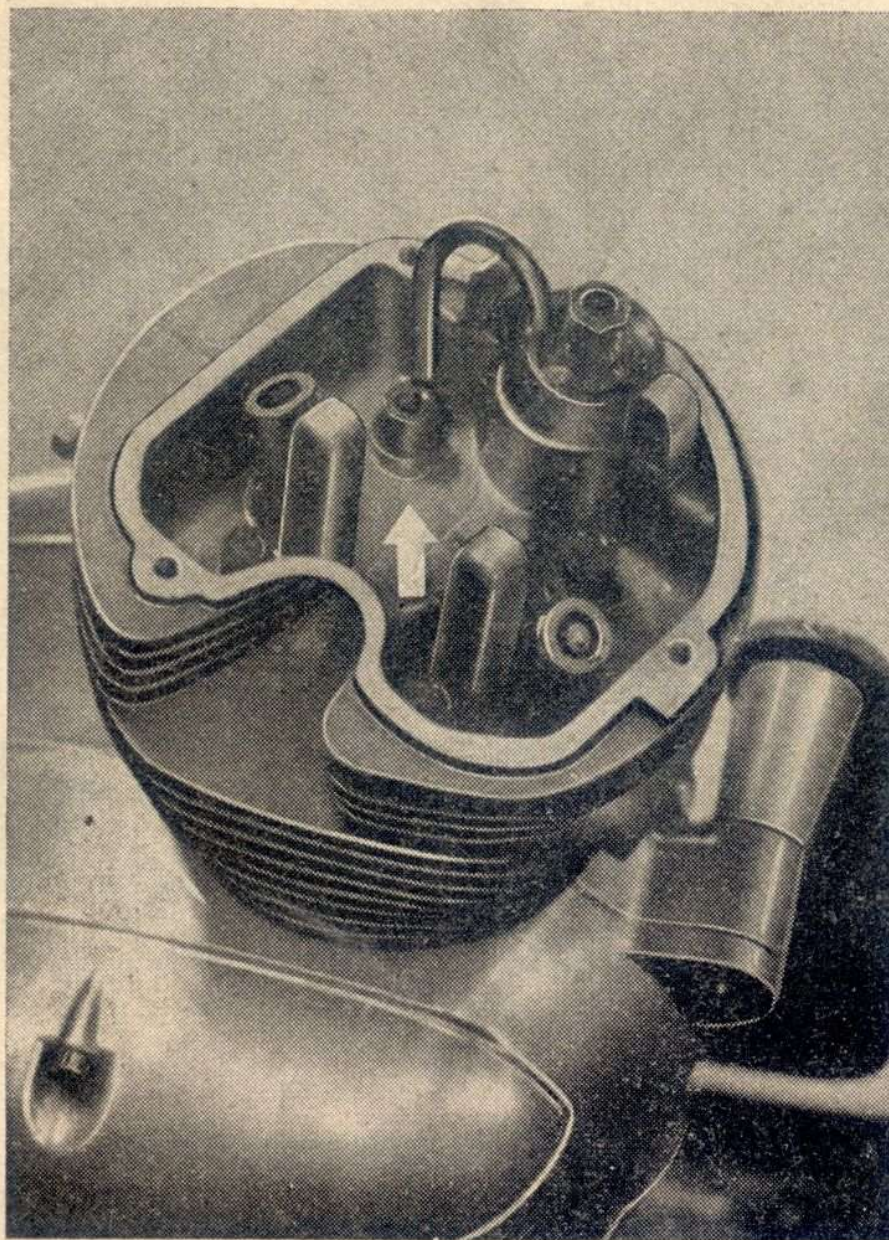

FIG. 1
- 4) Remove rear near side cylinder head nut and lift out cam oil feed pipe. FIG. 1.